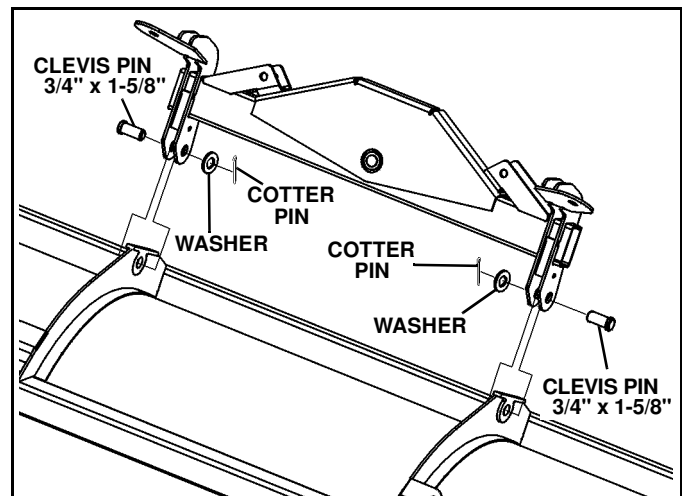

Figure 1-5
4. Place swing frame on blade, positioning the two inside ribs between the swing frame lugs. Insert a 3/4" x 1-5/8" clevis pin from blade parts bag to fasten each side. (See Figure 1-5).